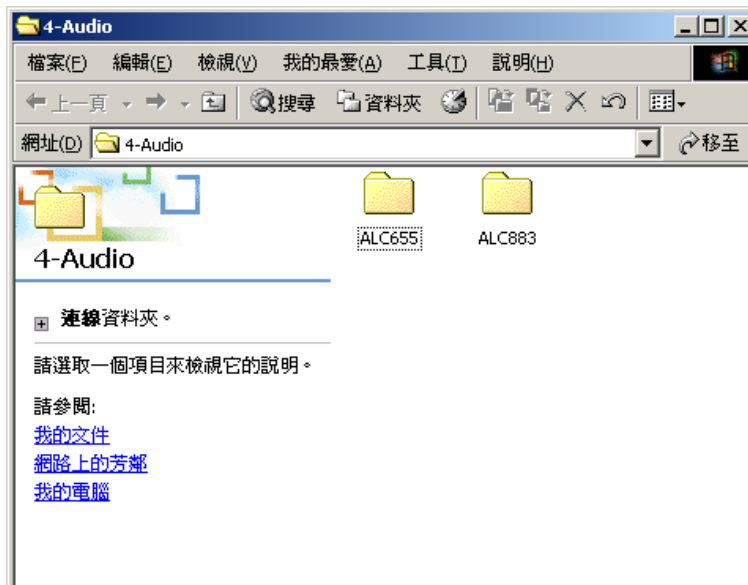

Figure 7-21: Audio Driver Options
Step 3: The screen in **Figure 7-21** appears.
- Step 4:** Select “ALC655” in Figure 7-21